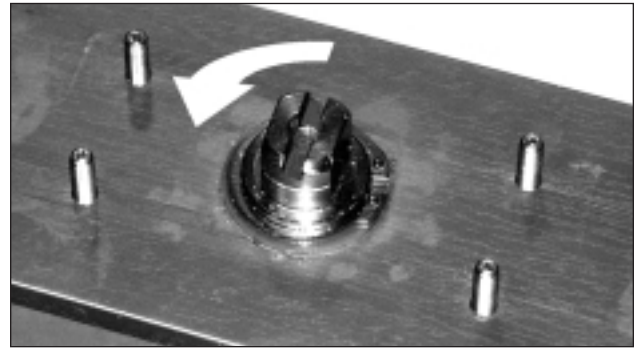

Figure 5: Actuator Shaft
3. Stroke the actuator to determine direction of rotation as shown in Figure 5. Pay specific attention to the slot that will engage positioner shaft.